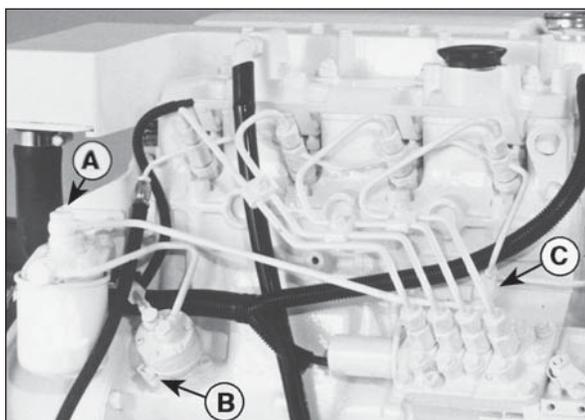

Figure 10: M844W2/ M844LW2 Fuel System.
2. Loosen bleed bolt “A” (Figure 10) on top of the filter. Pump hand primer “B” on fuel lift pump until pure fuel (no bubbles) escapes from bleed bolt “A”. Tighten bleed screw “A”.